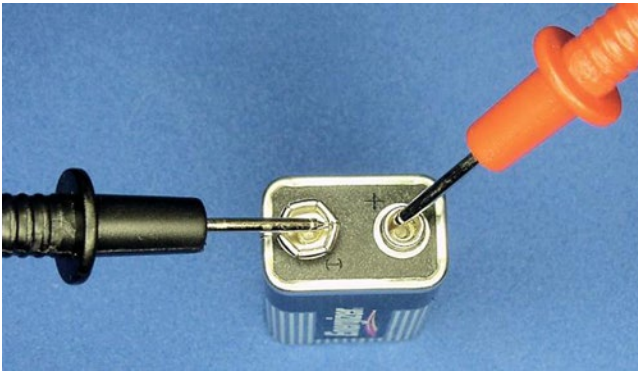

Figure 7-5. *Probe tips touching battery terminals*
6. Touch the metal tip of the red test lead to the battery's positive terminal (the smaller snap, which is usually marked "+"). See Figure 7-5.